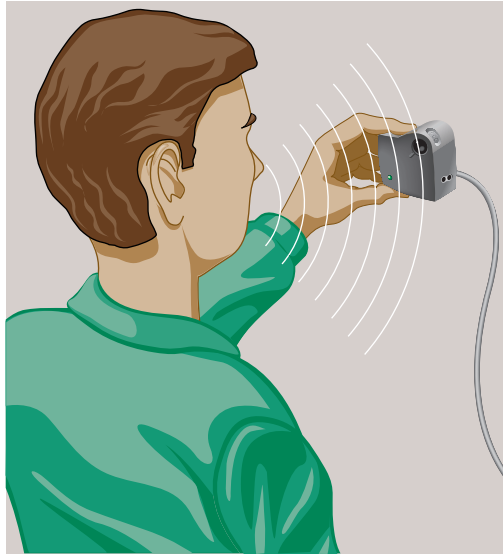

Figure 1-15 Using the O2Cam's Built In Microphone
- Figure 1-15 shows how to use the microphone on the camera.